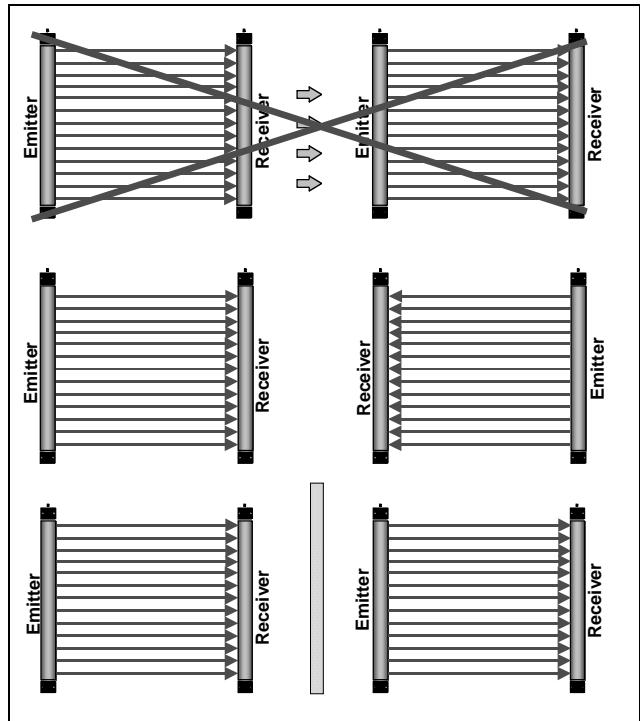

Figure 6: Arrangement of multiple light curtains
- When using multiple light curtain systems near one another, no emitter beams can be emitted in the direction of another system's receiver. The light curtain systems could interact with one another. For elevators with door openings at both ends of the cabin, the emitter and receiver door edges of the two doorways should therefore be arranged alternately to one another (figure 6).